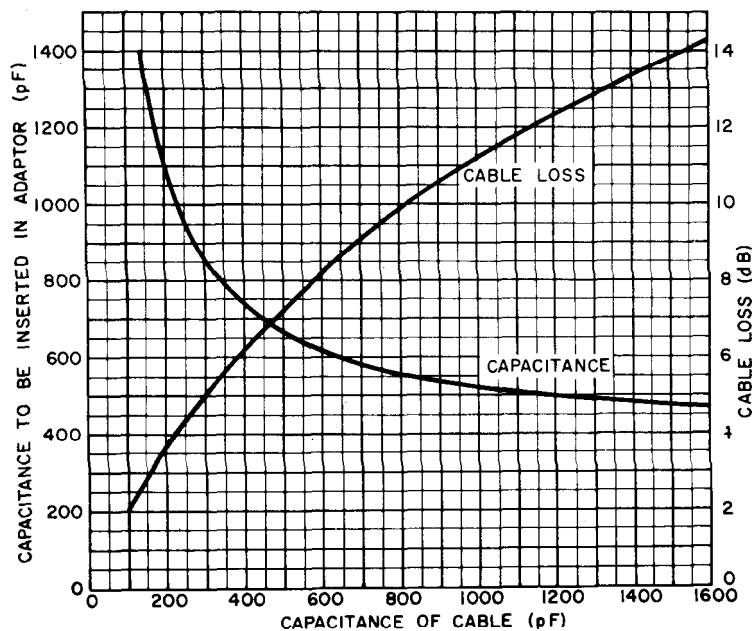
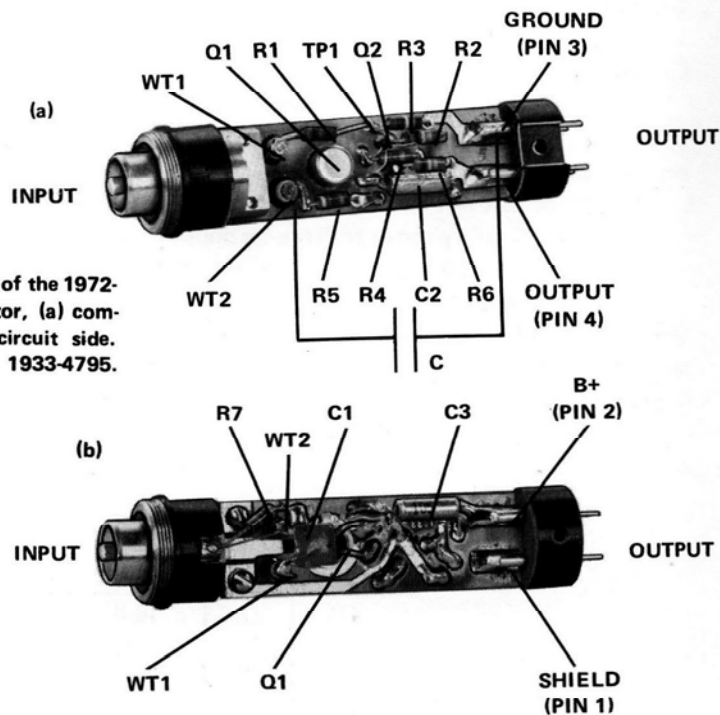

Figure 6-2. Compensation required for the capacitance of various extension cables and the corresponding cable loss.
Figure 6-3. Interior views of the 1972-9600 Preamplifier/Adaptor, (a) component side, and (b) circuit side. Complete board is P/N 1933-4795.
If the Preamplifier/Adaptor is to be used as an adaptor (i.e., the prongs not used) with a sound-level meter that uses the microphone-plus-cable capacitance as part of the weighting network (e.g., the GR 1565), the use of an extension cable will change the weighting characteristics. To compensate for this, a capacitor, C, Figure 6-3, must be added from high to ground (WT2 to pin 3) of the Preamplifier. Also, cable losses will cause the meter to read low by an amount that varies with the cable length. Figure 6-2 shows the value of the compensating capacitor for cable capacitances between 150 and 1500 pF and the loss to be added to the reading of the sound-level meter. This is often a convenient means of extending the upper sound-pressure measuring range of the sound-level meter.
b. Carefully unsolder and remove the coupling capacitors, C1 and C2 (see Figure 6-3).
d. Solder an insulated wire from the input terminal (WT1, Figure 6-3) to the output terminal (pin 4).